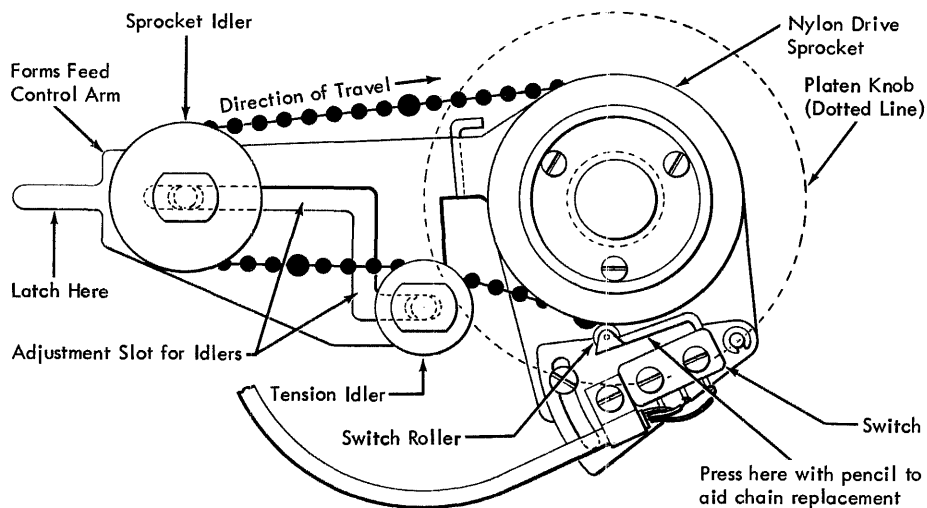

Figure 23. Side View of Forms-Feed Control Device
1. Position the first print line chain (left-hand) so a large bead is immediately in front of the switch roller (see Figure 23). The roller should rest upon the first small bead behind the large bead (single space line feed is assumed). If necessary, the control arm may be lifted to gain a better view of the switch roller. When replacing the control arm, care must be taken to turn the platen so that no relative motion takes place between the chain, the control arm, and the platen.